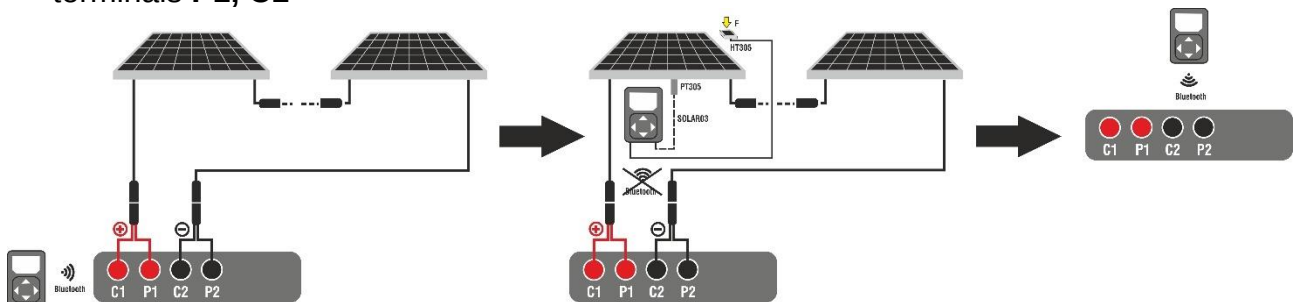
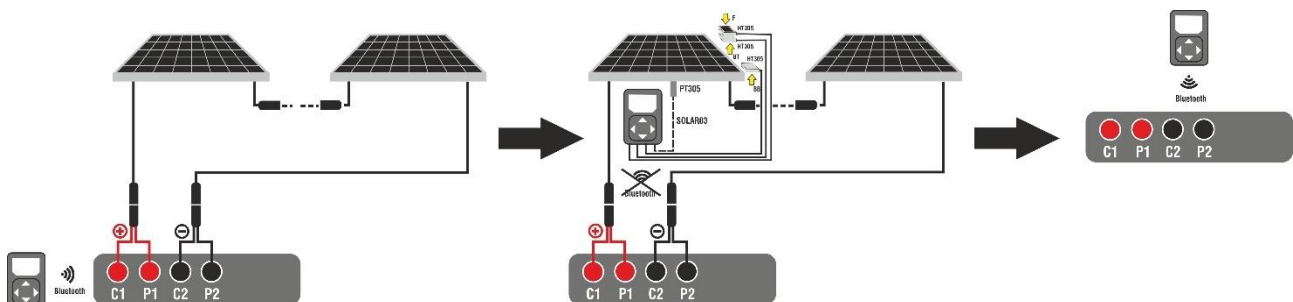

Fig. 47: Connection with SOLAR03 in synchronous recording on Monofacial modules
Fig. 48: Connection with SOLAR03 in synchronous recording on Bifacial modules
2. Connect the instrument to the module/string being tested as shown in Fig. 47 (Monofacial modules) or Fig. 48 (Bifacial modules). In detail, connect the negative pole output of the module/string to terminals **P2, C2** and the positive pole output of the module/string to terminals **P1, C1**
3. Move the SOLAR03 remote unit close to the instrument as shown in Fig. 47 or Fig. 48 – left side part
8. **Move the remote unit close to the modules** and connect the irradiance and temperature probes (if necessary) as shown in Fig. 47 or Fig. 48 – middle side part. In particular:
- **In case of Bifacial modules**→, position the **three HT305 reference cells** on the front surface of module (**F**), on the top back section(**BT=BackTop**) and on the bottom back section (**BB=BackBottom**) of the module. Connect the front reference cell (F) to input “**INP1**”, BT reference cell to input “**INP2**”, BB reference cell to input “**INP3**” and **possibly** the temperature probe **PT305** to input “**INP4**” of the remote unit. In accordance with the IEC/EN60904-1-2 standard, the instrument calculates the equivalent front-side Irradiance (**Irreq**) value, which corresponds to the Irradiance on the front surface only, which produces the same effects as the Irradiance measured on both sides, considering the **bifaciality factor** (ϕ) of the module according to the following relationship:
18. At the end of the test session, disconnect the SOLAR03 remote unit and move it back close to the instrument (see Fig. 47 or Fig. 48 – right side part)